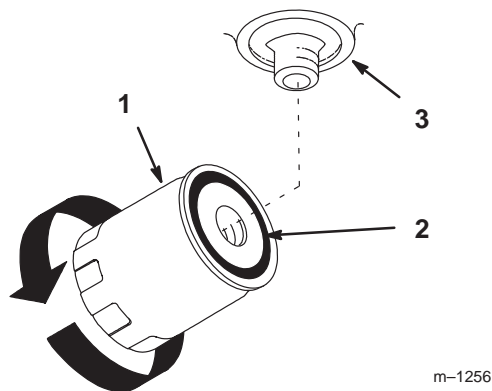

Figure 49
4. Apply a thin coat of hydro fluid to the rubber gasket on the replacement filter (Fig. 49).
7. When fluid overflows the filter, turn the oil filter clockwise until the rubber gasket contacts the filter adapter; then tighten the filter an additional 1/2 turn (Fig. 49).